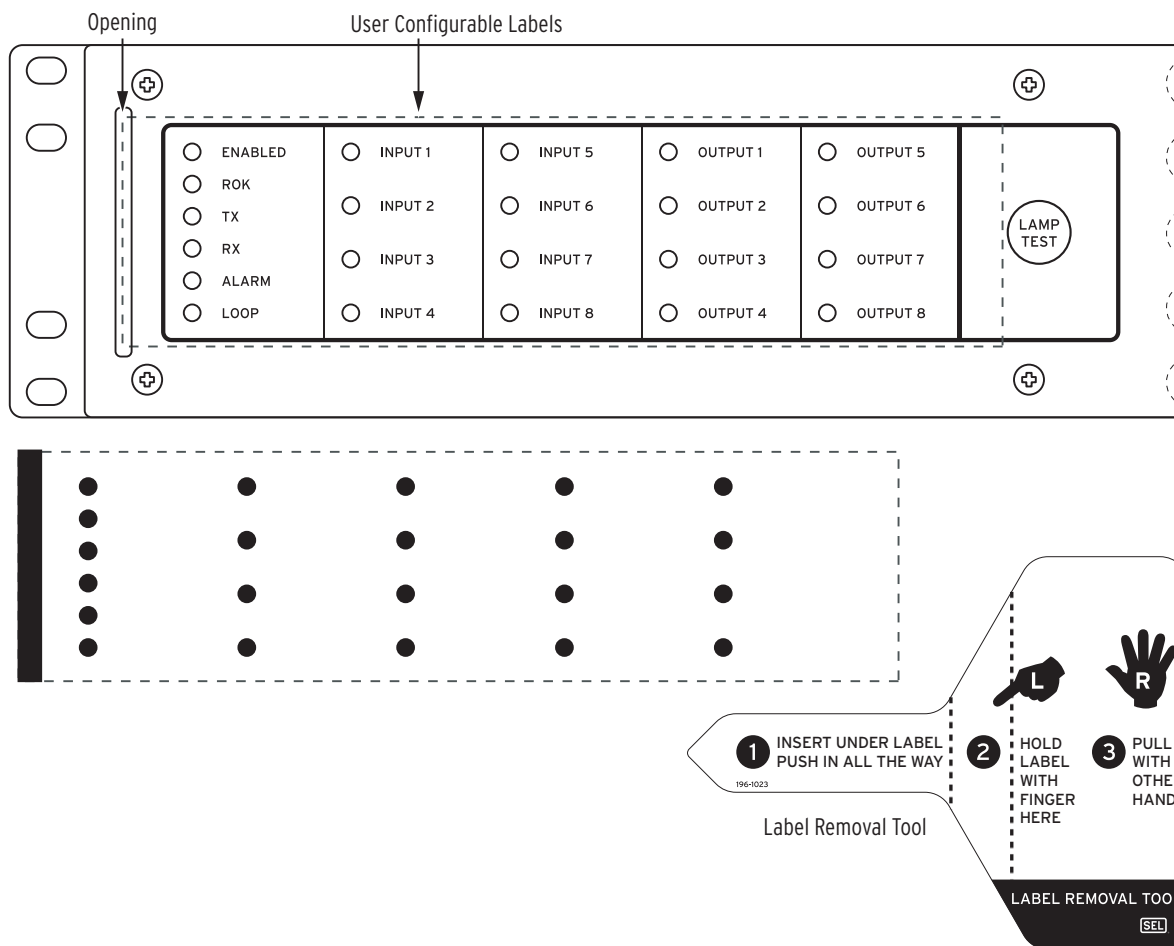

Figure 18 Blank Slide-In Label Set and Label Removal Tool
The blank slide-in label set, shown in *Figure 18*, is included with the SEL-2506.
Use the Label Removal Tool (shown in *Figure 18*) and the following procedure to remove slide-in labels from the front-panel pocket.
- Step 2. Slide the tip of the tool under the label at the label pocket opening (see *Figure 18* for opening locations).